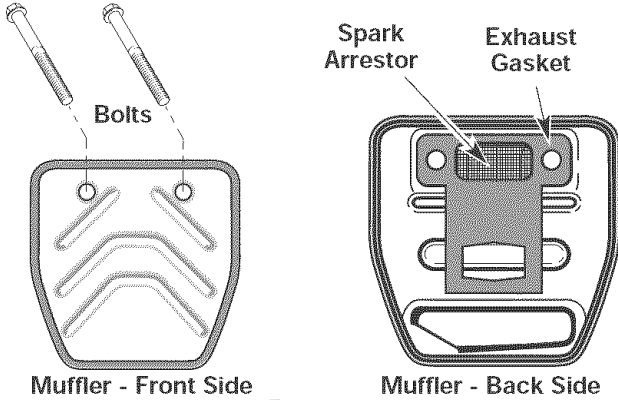

Fig. 16
2. Locate the muffler front and the two (2) bolts securing it to the engine (Fig. 16). Remove the two (2) bolts using a flatblade screwdriver or 5/16-inch socket or nut driver. Pull the muffler off of the engine.
3. Turn the muffler over to the back side and locate the exhaust gasket. Remove the muffler gasket from the muffler (Fig. 16).
7. Place the exhaust gasket against muffler's back side. Align the gasket bolt holes with the bolt holes in the muffler. While holding exhaust gasket in place, insert the bolts into the muffler's front side (Fig. 16).